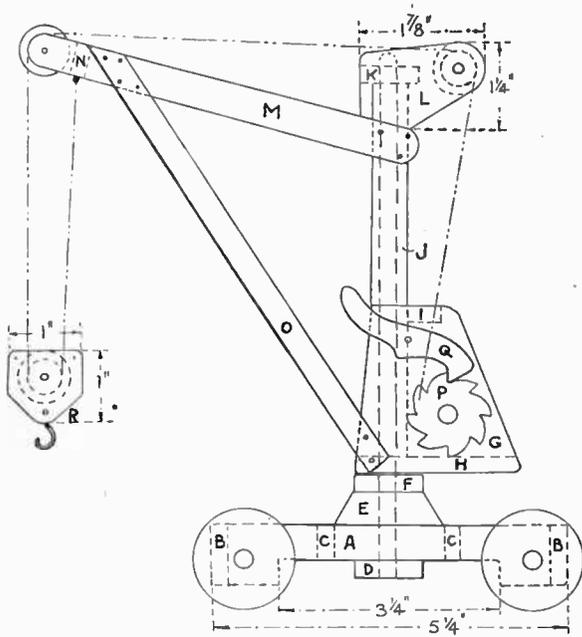
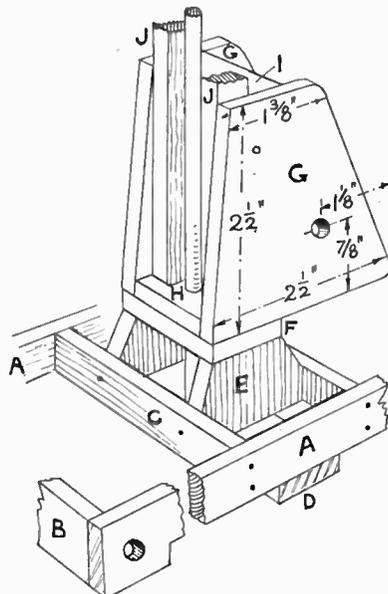
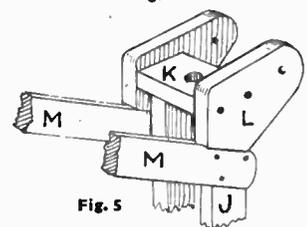

Fig. 1
Fig. 2
Fig. 5
Commence to work upon the platform which carries the wheels. The constructional diagram Fig. 1 shows the side rail as (A), and the length of this is 5½ ins., and its width at the ends ¾ in. For a length of 3½ ins. its width is ½ in. as shown.
All the rails for the platform are ¼ in. thick. There are two further cross rails (C); only these are 4 ins. long by ¾ in. wide and their position is seen in Figs. 1 and 2. Yet another cross rail is fixed to the platform, that shown at (D). This is 4½ ins. long and 1 in. wide, and, in its centre, is a hole to receive the end of the ½ in. rod round which the crane will swing.
Two shaped cross pieces (E) are now cut 1½ ins. long by 1 in. wide, and to the top of these the support piece (F) is fixed (see Figs. 1, 2 and 3). This piece (F) should be 1½ ins. long and 1 in. wide, and in this also is made a ¼ in. diameter hole to take the rod as seen. The two pieces (G) are next cut according to the dimensions given in Fig. 2, including the hole for the axle of the winding drum. The floor (H), to which the parts (G) are glued and nailed, measures 2½ ins. by 1 in., and a hole is made in this, a full ¼ in. so as to move freely round the upright rod.
A corresponding cross rail (I), the same length as (H) but  $\frac{1}{2}$  in. only in width, is fixed as shown (see Figs. 1 and 2).
Next prepare the two long uprights (J) from  $\frac{1}{2}$  in. thick wood,  $5\frac{1}{2}$  ins. long and  $\frac{1}{2}$  in. wide. Glue and pin these to the back of pieces (G) in the position shown, and connect up at the top with the cross piece (K), 1 in. long by  $\frac{3}{4}$  in. wide and  $\frac{1}{2}$  in. thick. Cut a hole in this piece a full  $\frac{1}{2}$  in. diameter for the tip of the round rod to go through loosely. Two pieces as (L) in Fig. 1 are next drawn out, cut to the measurements given, and glued to the outer sides of pieces (J) (see enlarged diagram Fig. 5). Note their positions in relation to the pieces (J) and (K).
The two arm supports (M) are next prepared from  $\frac{1}{2}$  in. thick wood. They are to be 6 ins. long and  $\frac{1}{2}$  in. wide, and the outer end should be cut to a semi-circle while the near end is just rounded as seen in Fig. 1. Bore a hole in each piece to take the pivot of the pulley at the outer end, and then hold the pieces together firmly by adding the short rail (N). This is 1 in. long and  $\frac{1}{2}$  in. wide and  $\frac{1}{2}$  in. thick. The two jib pieces (O) are  $7\frac{3}{8}$  ins. long,  $\frac{3}{8}$  in. wide and  $\frac{1}{2}$  in. thick, and they are fitted and fixed to the side pieces (G) at the bottom and to the supports (M) at the top. Hold the one piece first in position and mark off in pencil where it must be cut to get the correct angle. Mark and cut the second piece from this, and finally glue and pin the two to their respective pieces.
When gluing on the crank to the spindle allow a  $\frac{1}{8}$  in. clearance so that all will work freely when the winding cord and weight is attached. Make the pawl (Q) from  $\frac{1}{2}$  in. wood to the pattern shown in Fig. 1. It is  $1\frac{1}{2}$  ins. long, and a piece of wood  $\frac{3}{4}$  in. wide should be sufficient to get the correct shape shown. Test the pawl for position by placing it on the face of (G) and engaging the ratchet wheel, just as seen in Fig. 1. Then insert the screw after making the hole and screw it down, not tightly, of course, as it should rise and fall evenly and smoothly as the teeth of the ratchet wheel rise and fall. The whole crane and jib must finally be put over the main upright spindle, and come to rest on platform (F), where a thin metal or ivory washer could be inserted or dropped over the spindle beforehand.